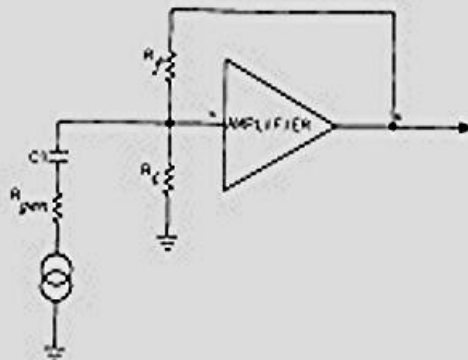

Fig. 6-4. Simplified block of feedback DC restorer - when diode gate is closed.
-- in this case a closed-loop gain of about 1.6. A closed-loop gain of 1.6 is too good to be true, so closer examination of the circuit is necessary. Fig. 6-4 illustrates the equivalent circuit during feedback time. When the gate is closed for feedback purposes C_1 is in parallel with R_f , so the loop gain of 1.6 exists only at, or very near DC. The result is a fast-operating feedback DC restorer with a low-pass filter in the feedback loop, having the equivalent effect on the overall amplifier system of a "slow" restorer. Putting it another way, insufficient feedback current is available to charge C_1 to the correct value in one sample or less.
Also, Tek used an equivalent circuit (fig 6-4) with the diode gate closed to help explain how it works, just as I had done in my description of the circuit.